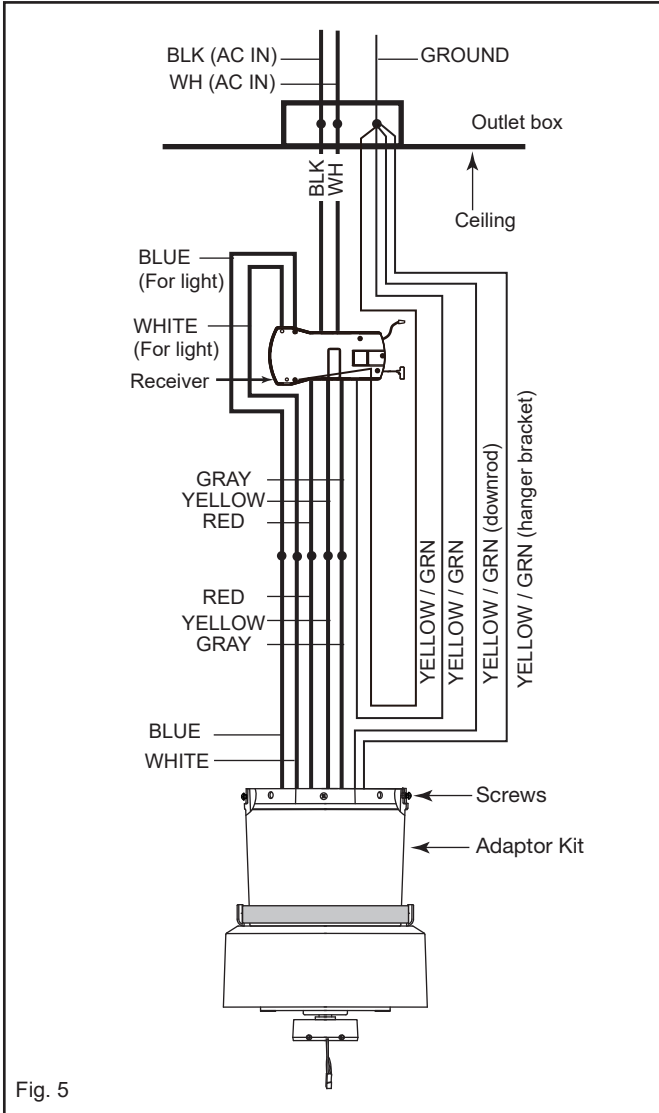

Fig. 5
Step 2. Make wire connections from the fan to the receiver unit. For this step use the bundle of 5 wires on the receiver. (Fig.5)